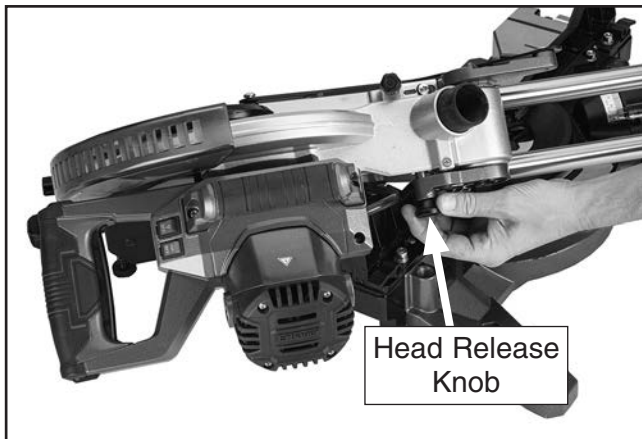

Figure 30. Releasing cutting head from down position.
2. Unlock cutting head by pulling head release knob (see **Figure 30**).